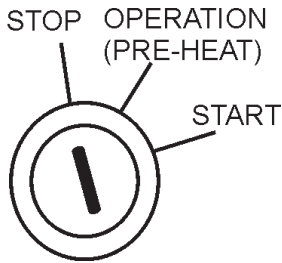

Figure 50. Ignition Switch (Normal)
3. Place the ignition switch (Figure 50) in the **“STOP”** position, remove the key and store in a safe place.